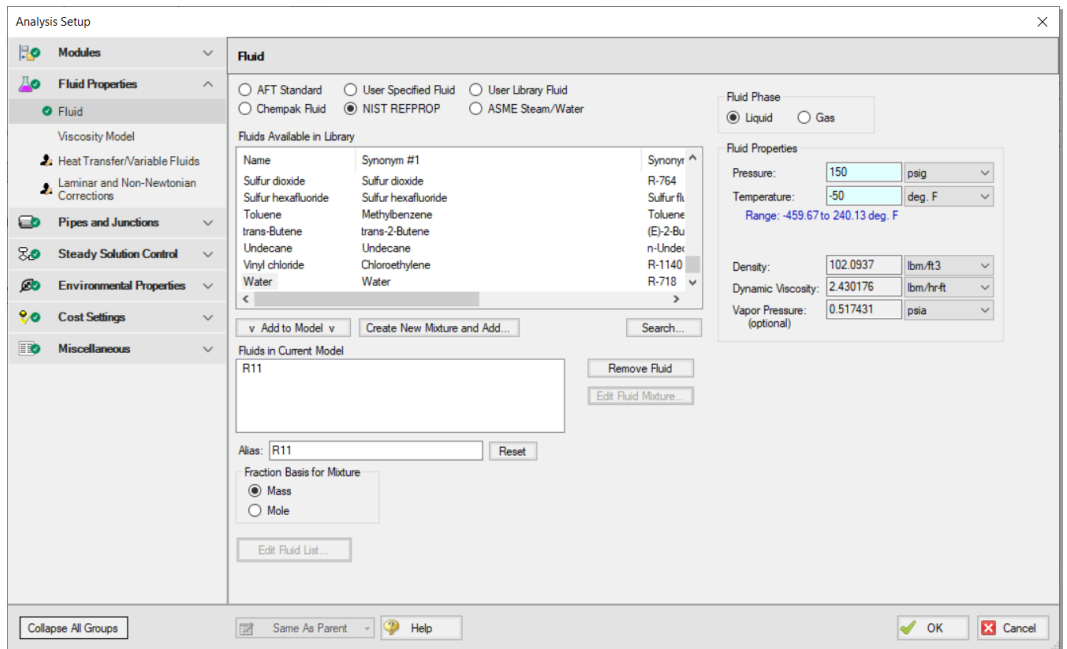

Figure 4.1 Fluid panel with R11 selected and fluid pressure and temperature specified
4. In the Fluid Properties section on the right, enter 150 psig for pressure and -50 deg. F for temperature (see Figure 4.1). Default fluid properties are automatically calculated. The Solver adjusts the